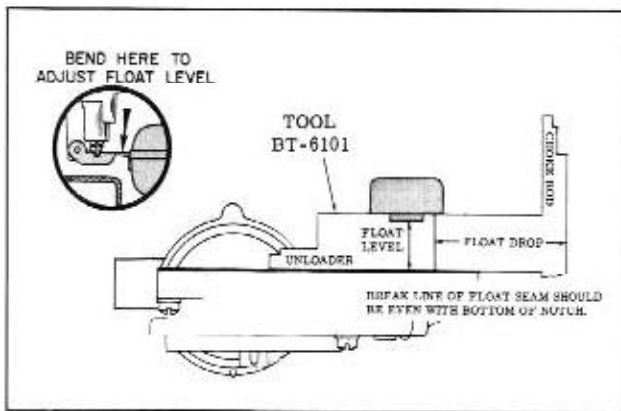

Fig. 8-79 Float Level Adjustment
Float Level Adjustment (Fig. 8-79)
2. Bend the float arm, as shown in Fig. 8-79.